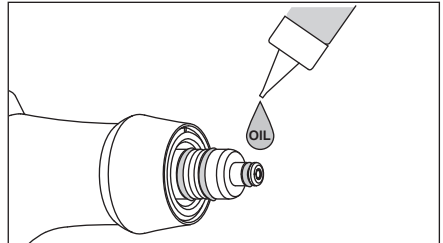

Fig.15
1) Dry the O-ring section of the powder case, apply a drop of the enclosed turbine oil and rub it in with your finger. (Fig. 15)